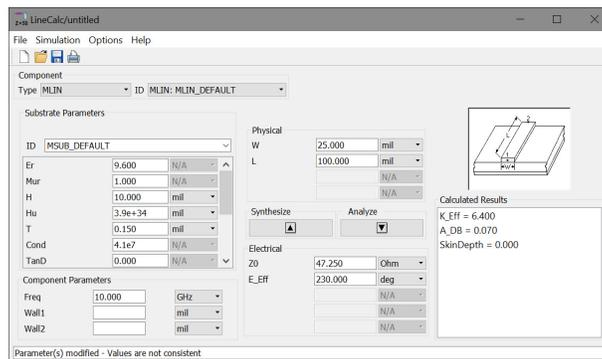

Figure 2: Window for LineCalc
- As we know that the characteristic impedance (Z_0) of a transmission line depends on its geometry factor, we need to obtain the correct geometry parameters of our trace line. In this case, we need to match Z_0 to 50 Ohm as the measurement system in the lab takes 50 Ohm as the reference. To do so, we perform LineCalc by selecting “Tools \rightarrow LineCalc \rightarrow Start LineCalc” and Figure 2 should pop up. LineCalc is an integrated tool in ADS that help us to calculate the geometry of the line we desired. More info about how the geometry parameters effect Z_0 can be found in this website: <https://www.microwaves101.com/encyclopedias/microstrip>.